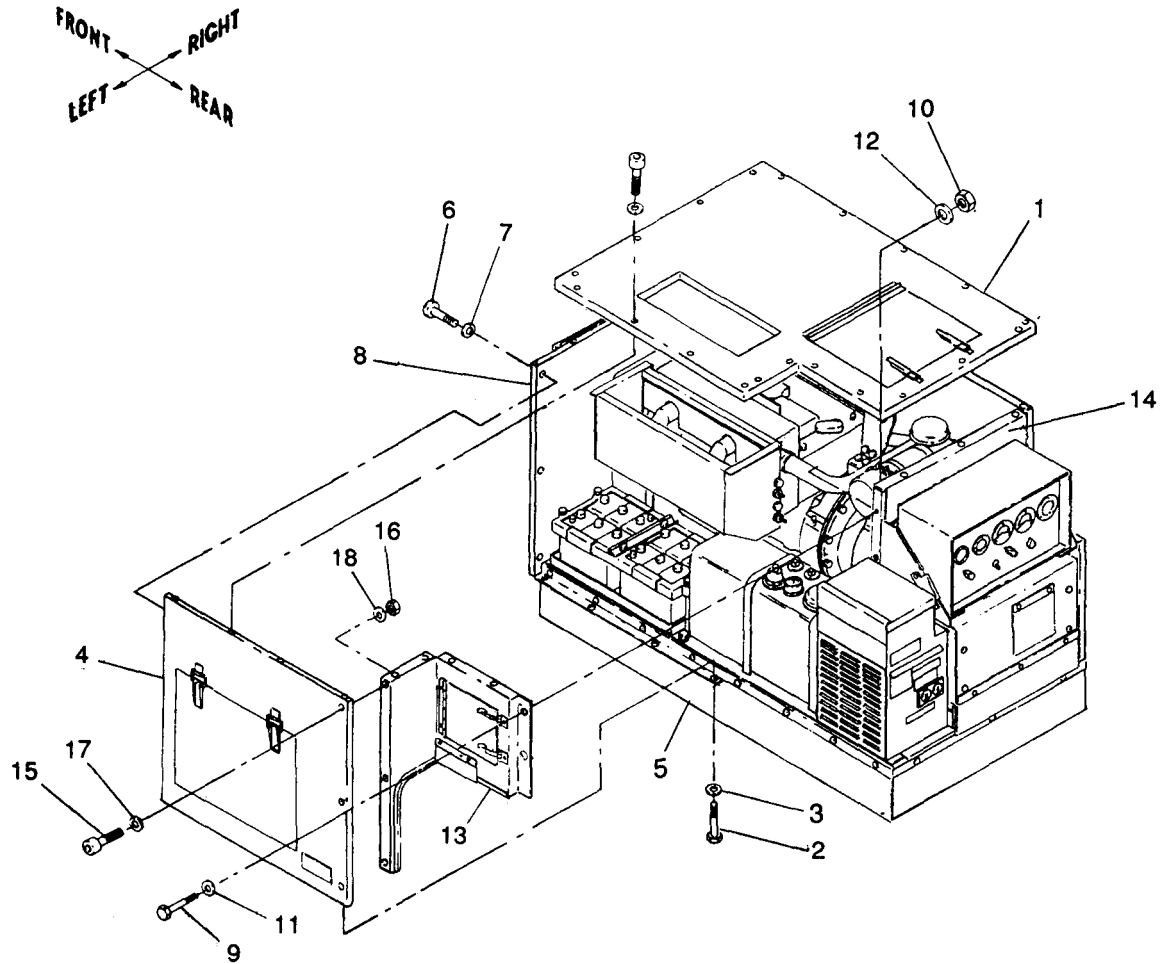

Figure 5-4. Left Panel Assembly and Side Closure Assembly, Removal and Installation
a. Removal. See figure 5-4. Remove left panel assembly with side closure assembly from top panel, front panel, left support and rear closure assemblies as follows:
(1) Remove top panel assembly (1) as described in paragraph 5-4.
(2) Remove four screws (2) and washers (3) securing left panel assembly (4) to left support assembly (5).
(3) Remove three screws (6) and washers (7) securing left panel assembly (4) to front panel assembly (8).
(4) Remove two screws (9) and locknuts (10), and four washers (11 and 12) securing side closure assembly (13) to rear closure assembly (14) and lift off left panel assembly (4) with side closure assembly (13) .
(5) Remove three screws (15) and locknuts (16), six washers (17 and 18) securing side closure assembly (13) left panel assembly (4).
b. Installation. See figure 5-4. Install left panel with side closure assembly to top panel, front panel, left support and rear closure assemblies as follows:
- (1) Install three screws (15) and locknuts (16) and six washers (17 and 18) securing side closure assembly (13) to left panel assembly (4).
- (2) Torque screws (15) to 16 \pm 2 ft-lbs dry.
- (3) Position left panel assembly (4) with side closure assembly (13) on generator and install two screws (9) and locknuts (10) and four washers (11 and 12) securing side closure assembly (13) to rear closure assembly (14).
- (4) Torque screws (9) to 16 \pm 2 in.-lbs dry.
- (5) Install three screws (6) and washers (7) securing left panel assembly (4) to front panel assembly (8).
- (6) Torque screws (6) to 18 \pm 2 in.-lbs dry.
- (7) Install four screws (2) and washers (3) securing left panel assembly (4) to left support assembly (5).
- (8) Torque screws (2) to 18 \pm 2 in.-lbs dry.
- (9) Install top panel assembly (1) as described in paragraph 5-4.